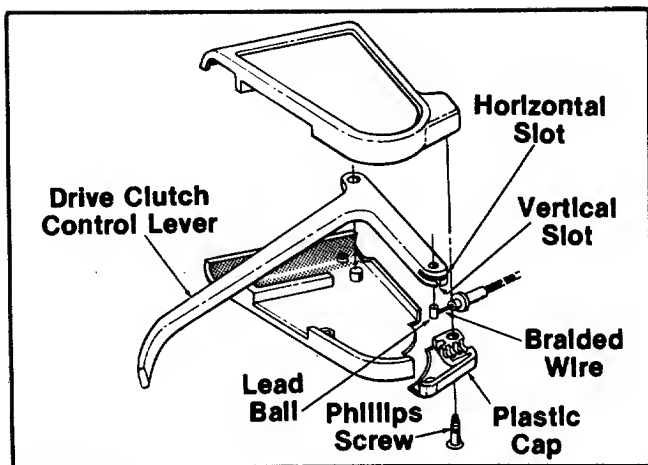

FIGURE 10.
16. Slide the braided wire around in the horizontal slot. See figure 10.
18. Place the plastic cap (G) in position beneath the clutch control housing. Secure with the two Phillips head screws. See figure 10.